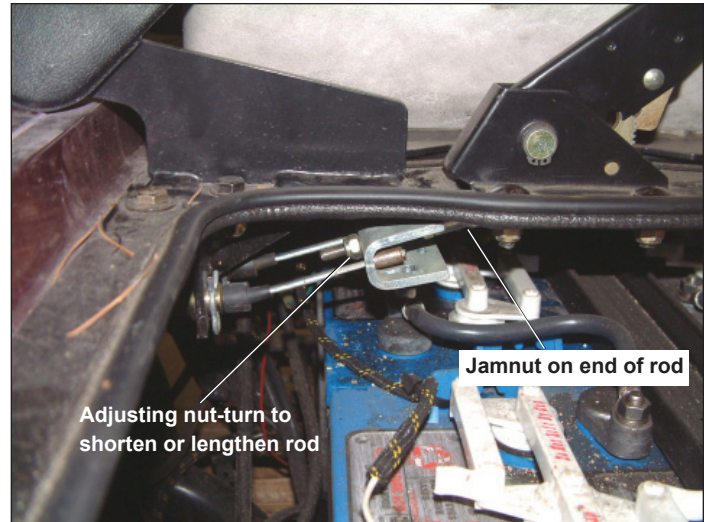

Figure 5-12. Hydraulic Parking Brake Adjustment
1. Parking brake rod linkage is connected to the brake equalizer, located under the seat (Figure 5-12).